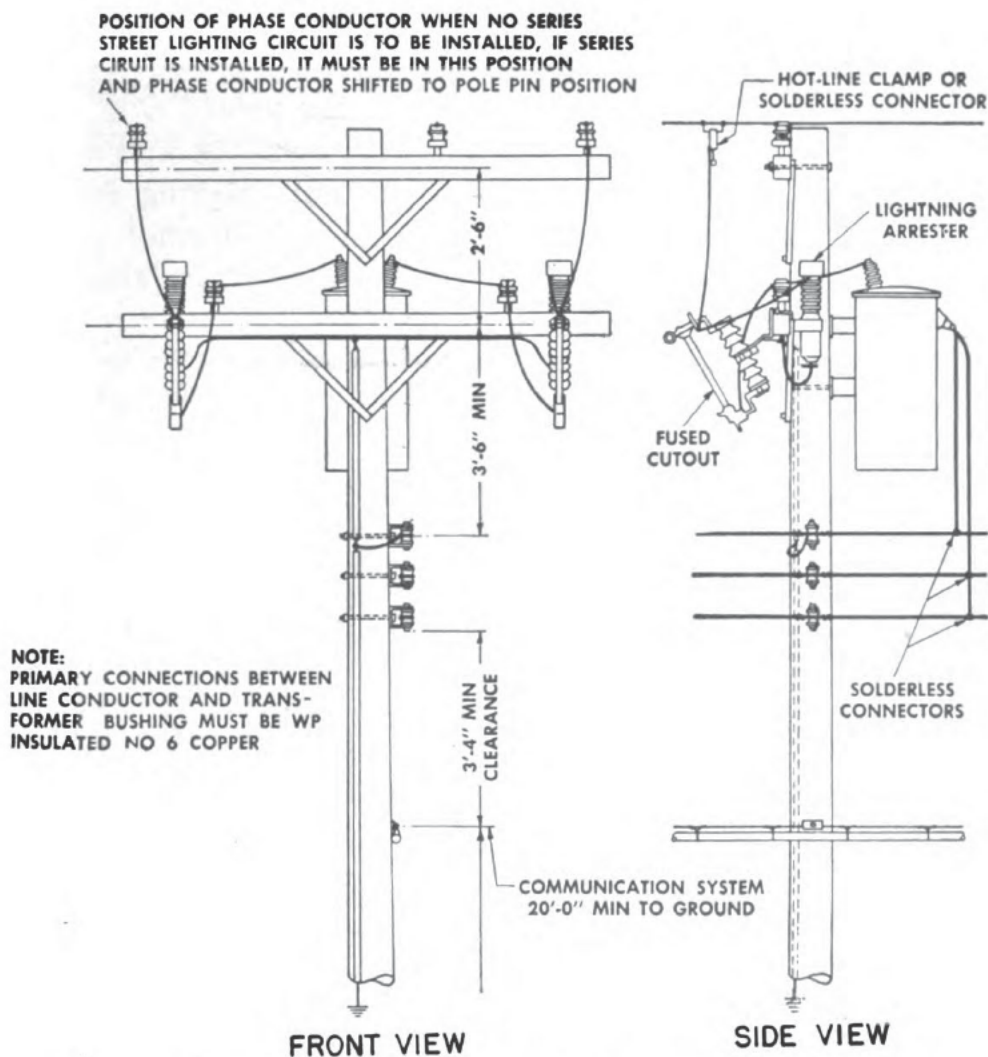

Figure 7-2.—Single-phase transformer installation.
A typical single-phase transformer installation is shown in figure 7-2. The primary voltage, carried on a three-wire
7. Mount the lightning arrester and fused cutout near each end of the crossarm. In figure 7-2, a combination arrester and cutout bracket is used that may be slipped onto and clamped securely to the crossarm.